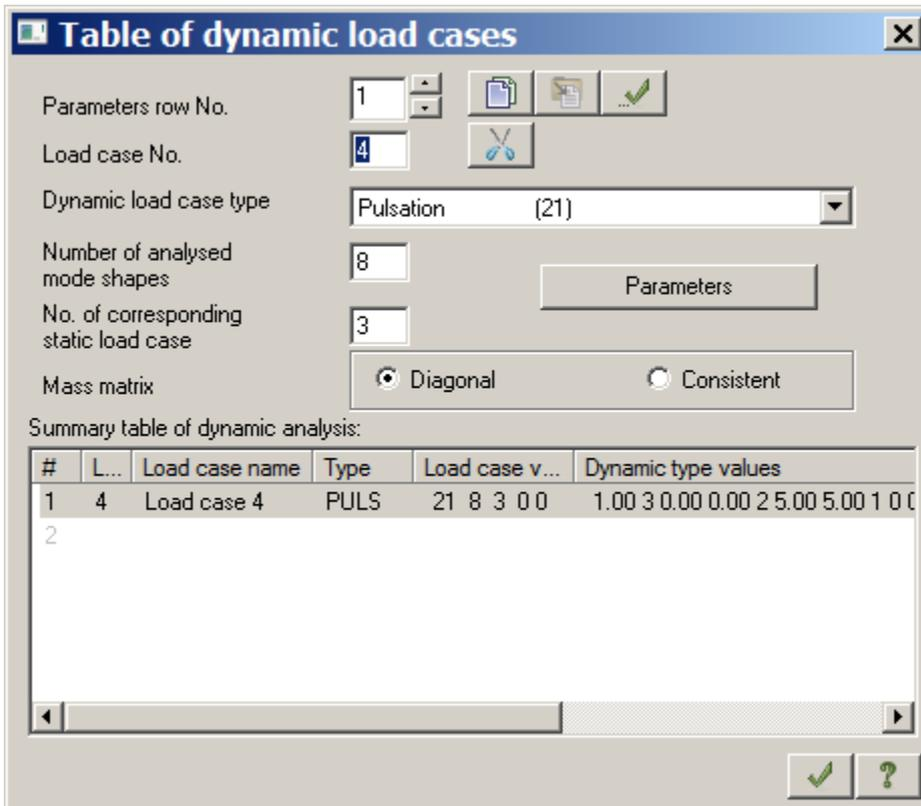

Figure 5.24 Table of dynamic load cases dialog box
- ⇒ In the **Table of dynamic load cases** dialog box (see Fig.5.24), define the following data:
- dynamic load type – **Pulsation (21)**;